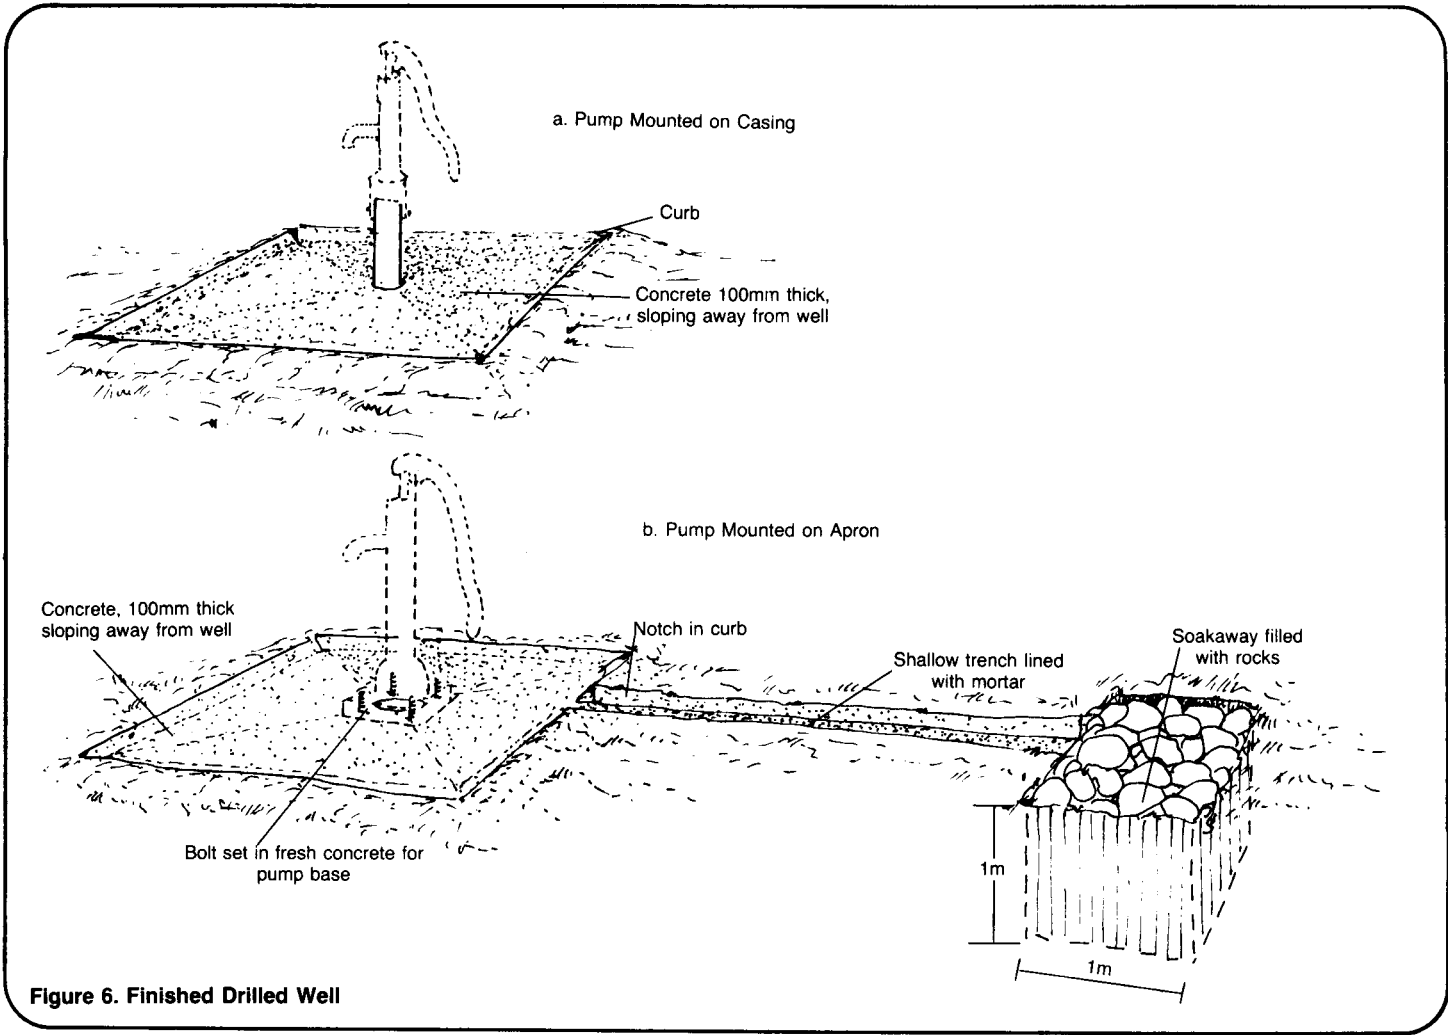

Figure 6. Finished Drilled Well
3. Mix concrete in the proportions of one part cement, two-and-a-half parts sand, five parts gravel, and enough water to make a workable mix. Pour concrete into the apron area. Make it about 100mm thick at the well casing and sloping slightly downward away from the well. Trowel it smooth. If the pump or the base of the pump is to be bolted to the apron, set bolts into the fresh concrete in exactly the required position. Form a curb of concrete around the outside edge of the apron; make it about 25-50mm high to contain spilled water. See Figure 6.
5. Dig a shallow ditch from the notch in the curb to a soakaway pit, a small pit filled with rocks, or other drainage area a few meters or more away from the well. Line the ditch with mortar. See Figure 6.